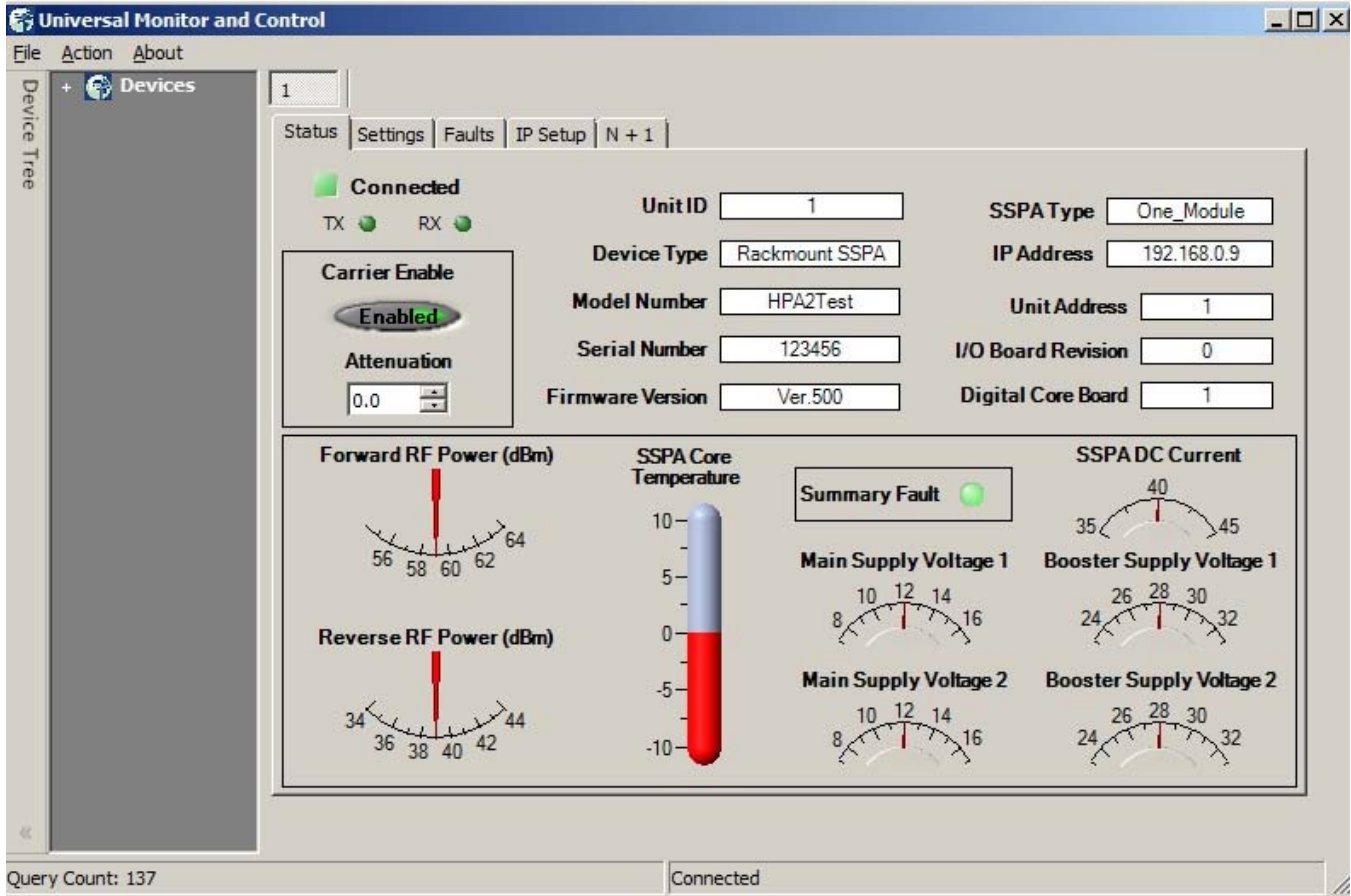

Figure 6-5: Status Screen
The Universal M&C software allows the user to monitor the condition of each connected SSPA and the condition of the entire N+1 system. **Figure 6-5** shows a typical Universal M&C screen with four (4) SSPA units (tabs labeled 1, 2, 3, 4) and one (1) system (tab labeled PowerMAX System) being monitored.
The first screen is the “Status” tab shown in **Figure 6-5**. The status screen reflects the current conditions (or state) of the Rack Mount SSPA. In addition, the status screen allows the user to Mute or Unmute the carrier and manually adjust the on-board Attenuator for gain control.